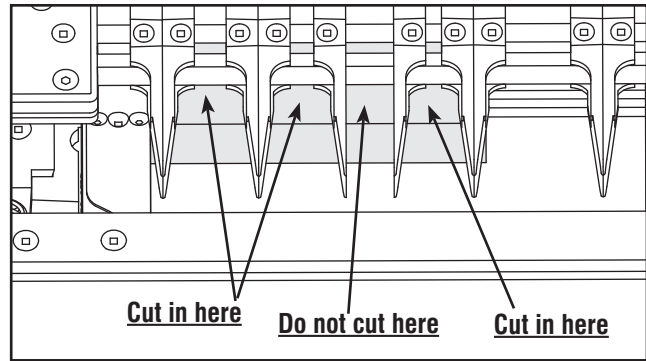

Fig. E9
- NOTE:** If you have separated a finger set, be sure to cut only between the angled walls, not between the straight ones. (Fig. E9)